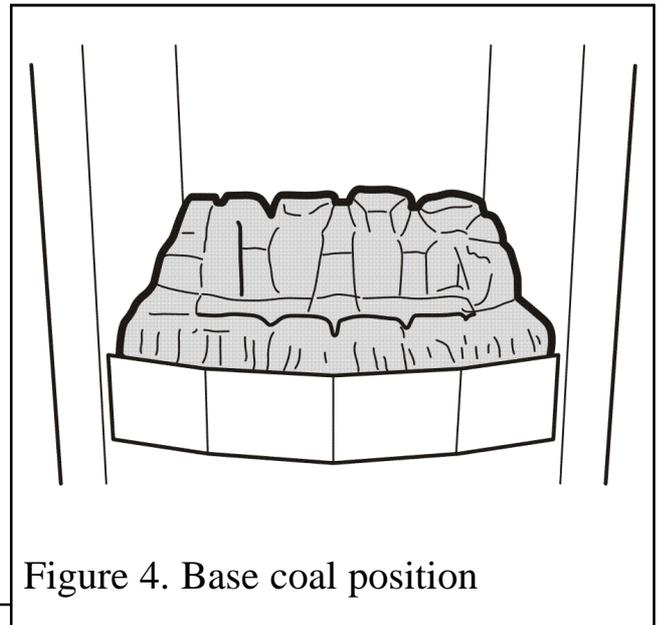

Figure 4. Base coal position
1. Place the base coal in the firebox (See figure 4).